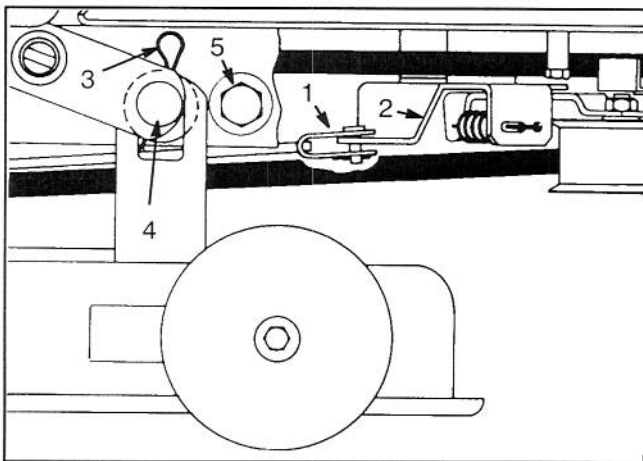

Figure 16
9. Remove cotter pin and clevis pin securing deck brake rod to idler bracket (Fig. 16).
10. Remove (2) hairpin cotters and washers retaining mower housing to mounting pins (Fig. 16). Grasp mower housing and move it to the side until housing slides off pins, then forward to allow front mounts to drop.
5. Remove capscrews, retainers and locknuts securing deck stops to each side of mower frame (Fig. 16). Slide mower housing rearward to release belt tension.